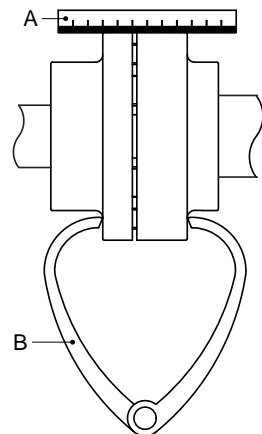

Figure 4: Aligning the coupling by means of a ruler and a pair of outside calipers.
Place a ruler (A) on the coupling; the ruler should touch both half couplings over the entire length (see figure 4).